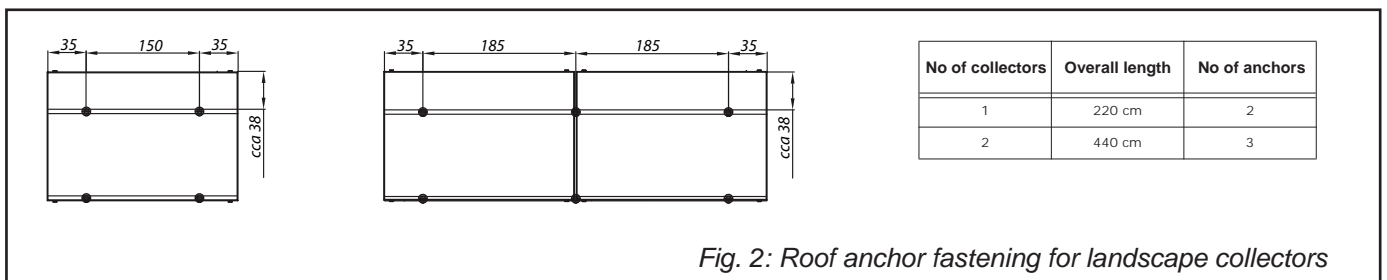
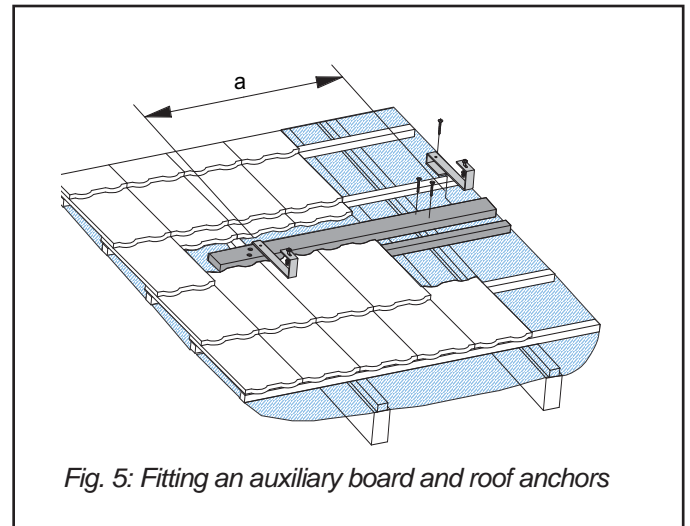

Fig. 2: Roof anchor fastening for landscape collectors
Fig. 5: Fitting an auxiliary board and roof anchors
- Fit the auxiliary boards to battens so that the distribution of anchors resembles the positions in Fig. 2. At the same time screw the boards so high that the roof
- Hang the roof anchors onto the auxiliary board respecting their distribution shown in Fig. 2.
- Remove roofing in places where anchors shall be fitted (Fig. 5). The distance “a” between anchors is defined in Fig. 2.
- Depending on the number of collectors, measure and calculate the positions for fitting roof anchors (Fig. 2). Such places shall be selected for mounting where anchors can be fastened sufficiently into the roof frame (rafter or similar).